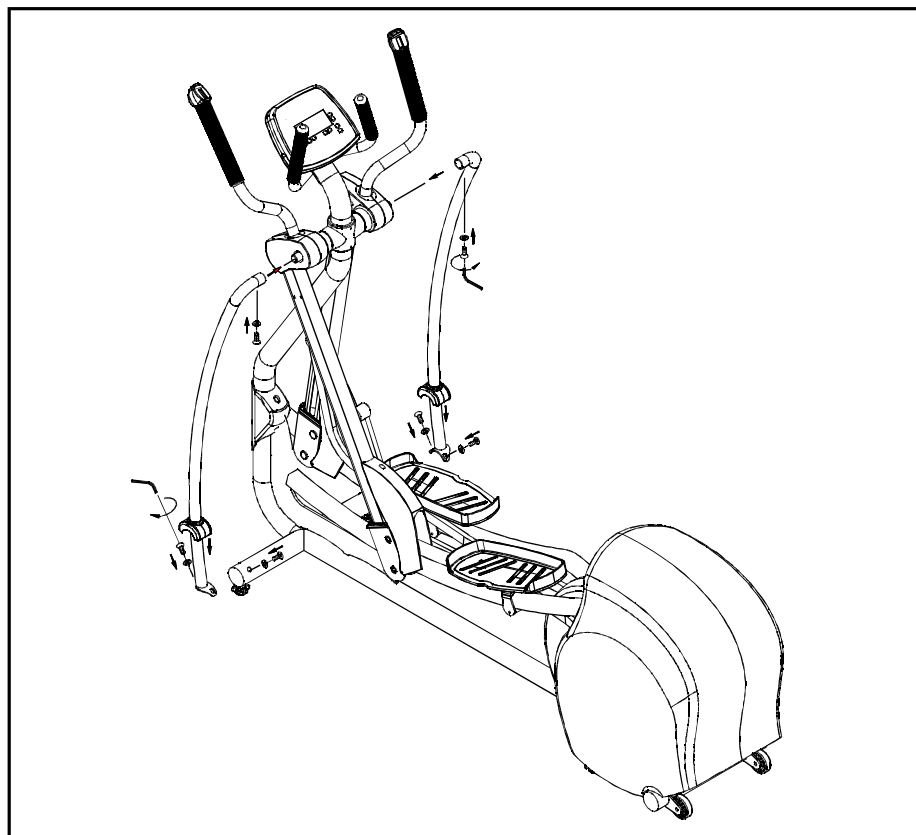

Fig.8
9. Attach the support tubes with the 1/4" x L 3/4" bolts to the upper tube mount, and secure them tightly. Use T-handle wrench to secure 5/16" x L 3/4" bolts on the lower tube mount. Then cover with water-against cap. (See Fig.8)